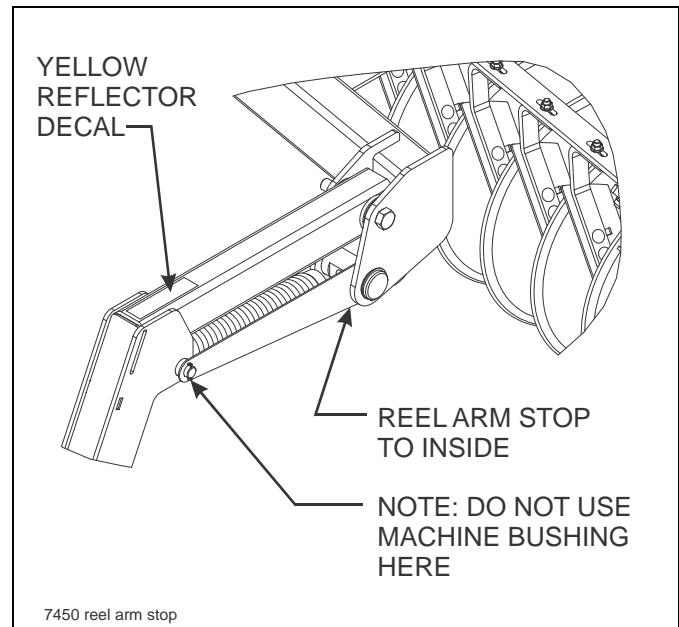
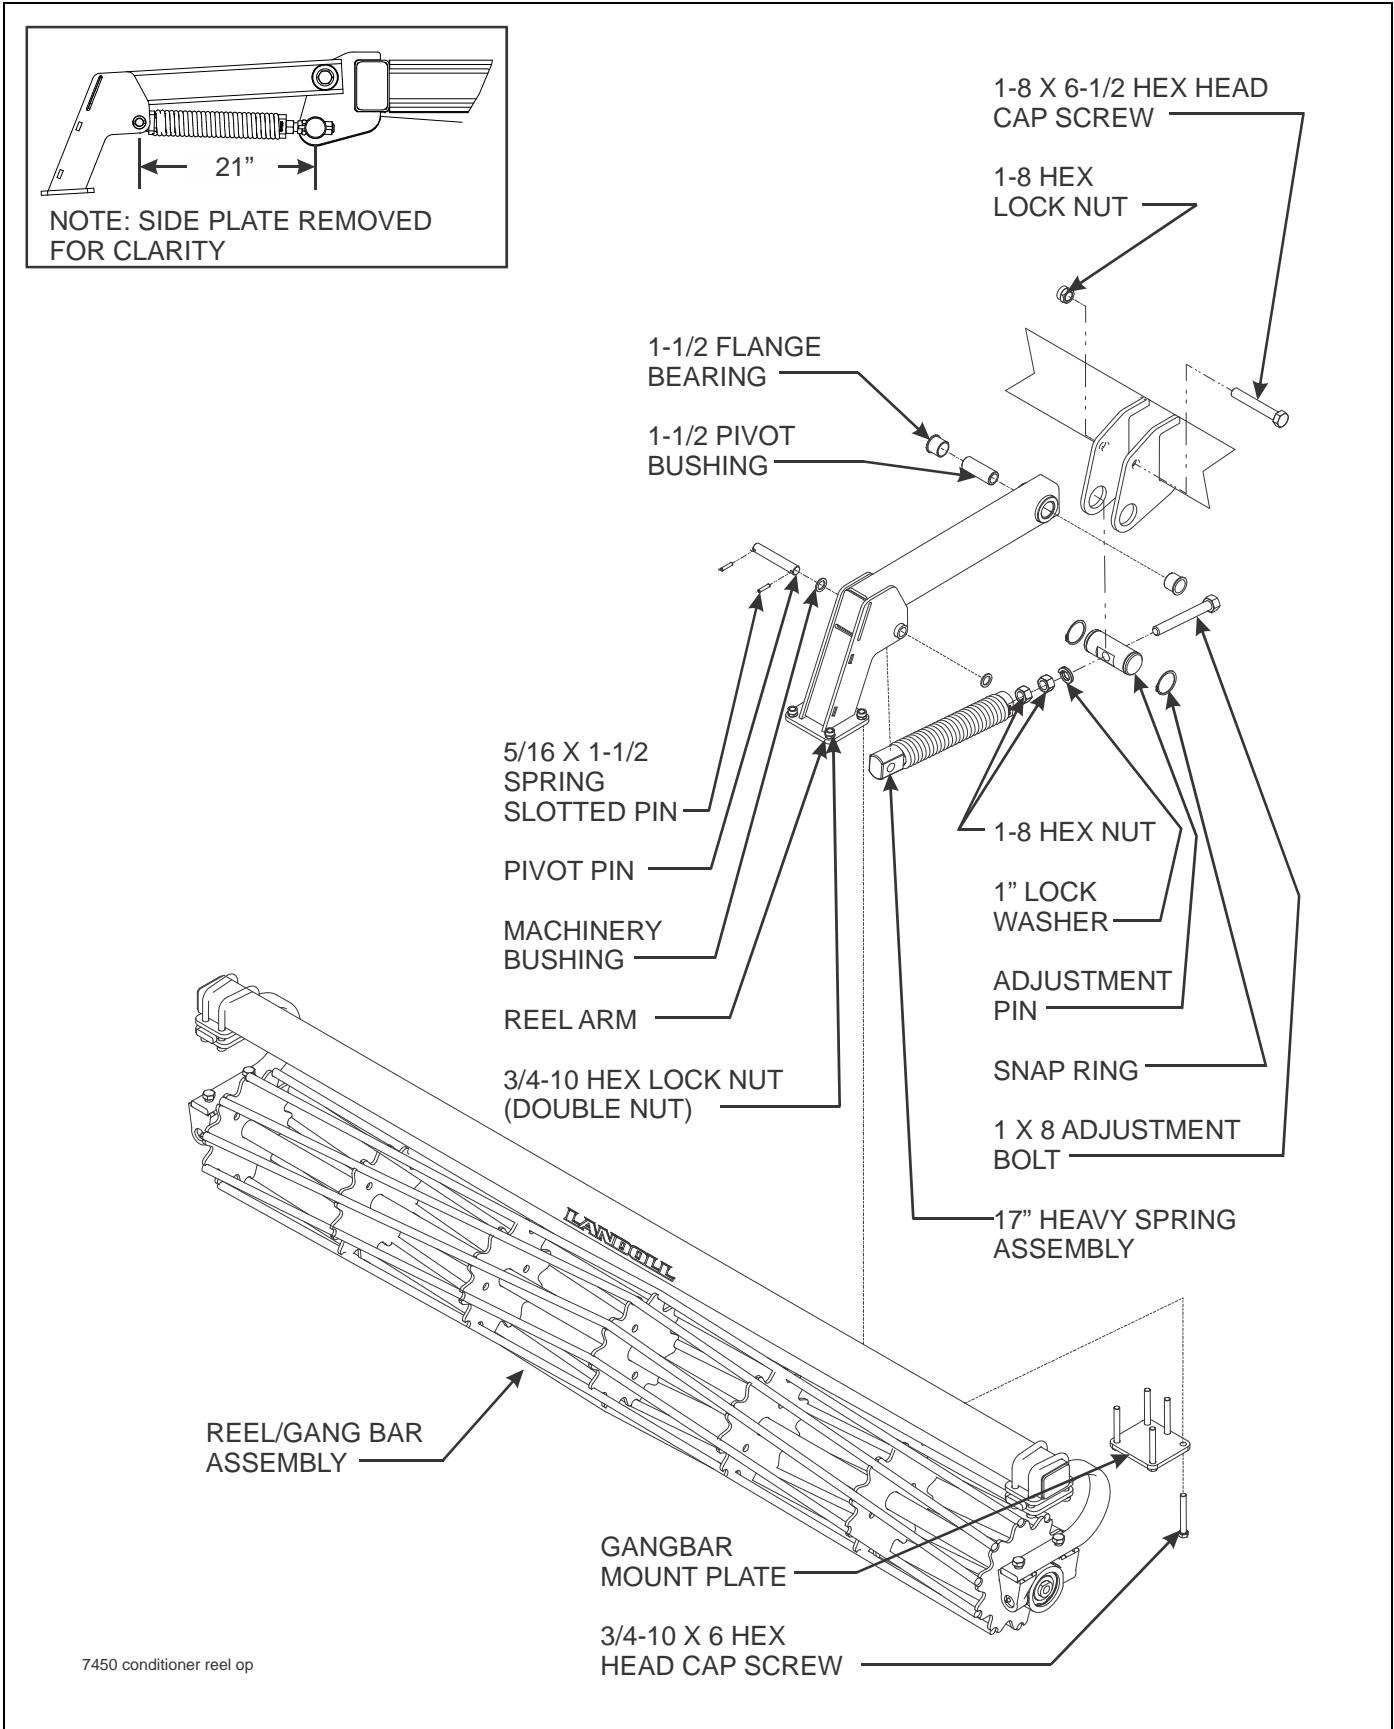
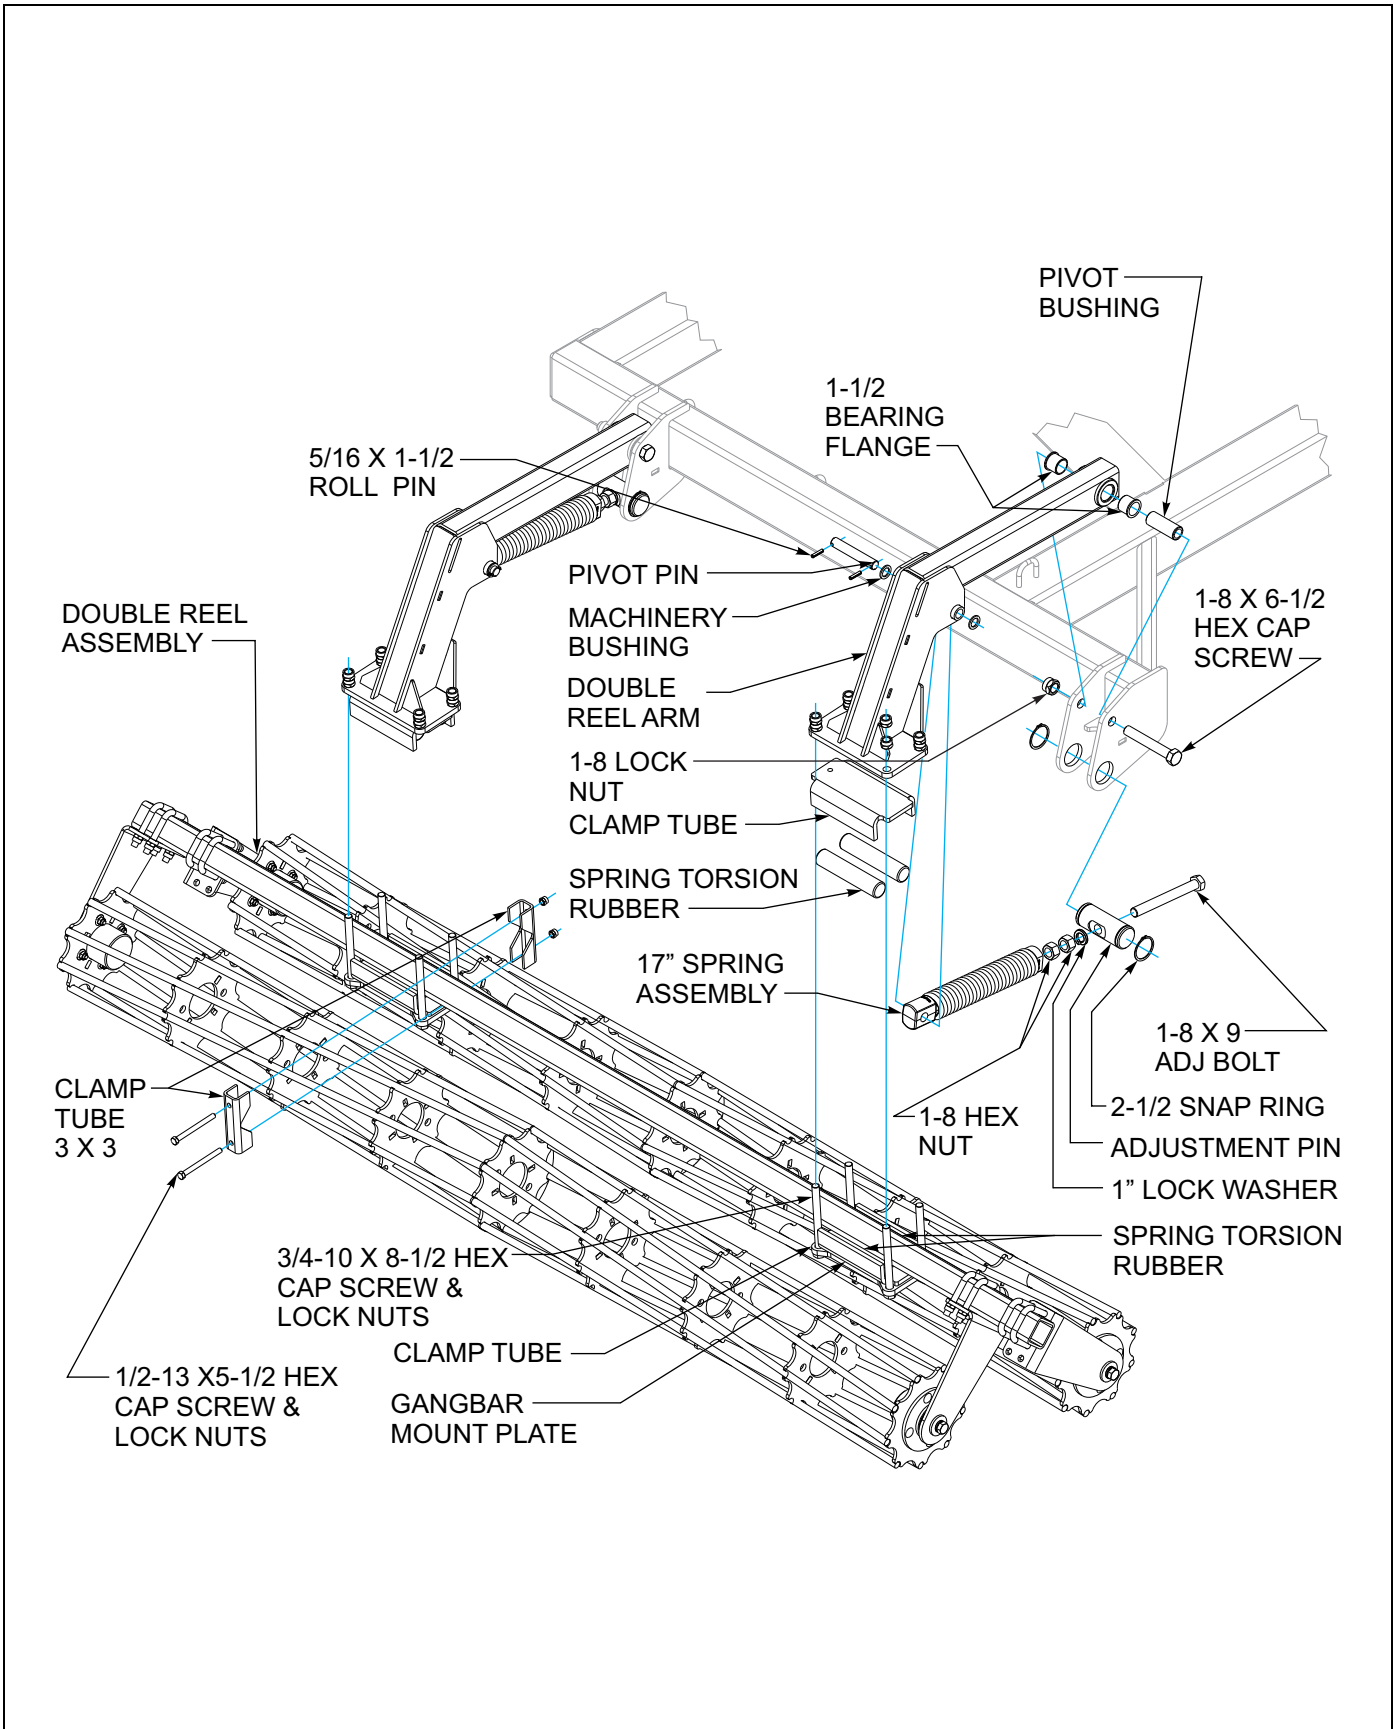

Figure 3-23: Conditioner Reel Arm Stop
Figure 3-24: Conditioner Single Reel Installation
Figure 3-25: Conditioner Double Reel Installation
Refer to *Conditioner Single Reel Installation* shown in **Figure 3-24** for single reel installation or *Conditioner Double Reel Installation* shown in **Figure 3-25** for double reel installation.
1. Assemble 1 x 8 adjustment bolt through adjustment pin on frame, 1" lock washer, (2) 1-8 hex nuts, and 17" heavy spring assembly. On the outer wings, remove one snap ring and slide large slot of reel arm stop over adjustment pin. Replace snap ring before installing the 1 x 8 adjustment bolt. The reel arm stop will be in between the plates welded to the frame, but mounted to the outer end of the reel.
4. Assemble 17" heavy spring assembly to reel arm using 1" pivot pin, and 5/16 x 1-1/2" spring slotted pins. Set pin centers to 21" dimension as shown in **(Figure 3-24)**. On the outer wings, the reel arm stop will replace the machinery bushing on the outside of the reel arm **See (Figure 3-23)**. This will prevent the outer reels from hanging down so far while the machine is being folded. **Refer to pages 2-6 thru 2-17** for reel arm stop locations.